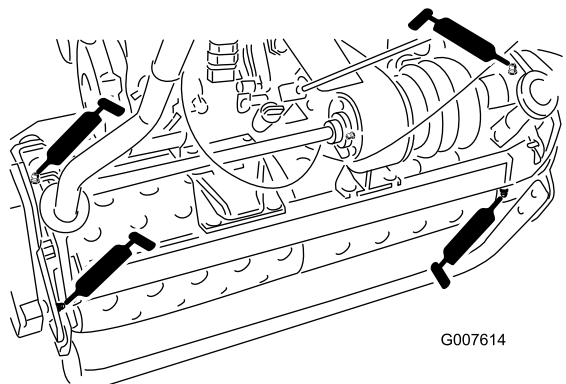

Figure 12
- 2 on the drum axles (Figure 12)
- 3 on the differential (Figure 12)